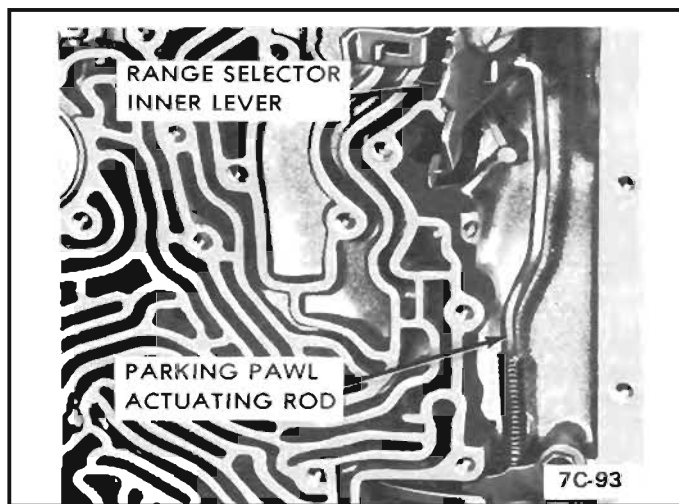

Figure 104 Actuating Rod
5. Install actuating rod under the park lock bracket and parking pawl. *See Figure 104.*